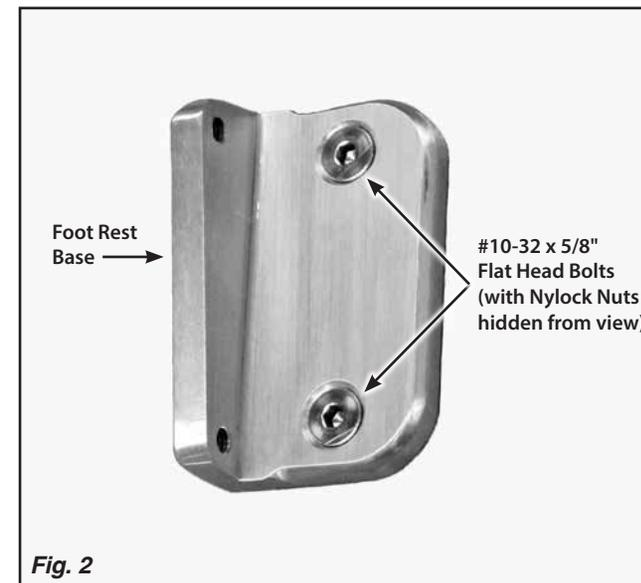

Fig. 2
Step 4: Install the foot rest base onto the floorboard using the #10-32 x 5/8" flat head bolts and nylock nuts. **Fig. 2**